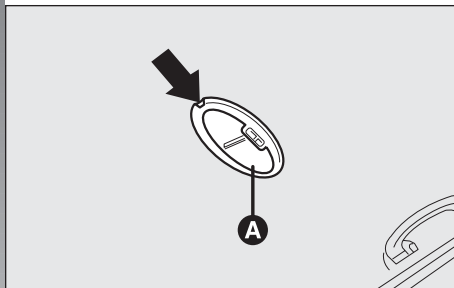

fig. 56
- Remove the roof light (**A-fig. 56**) levering in the point shown by the arrow.